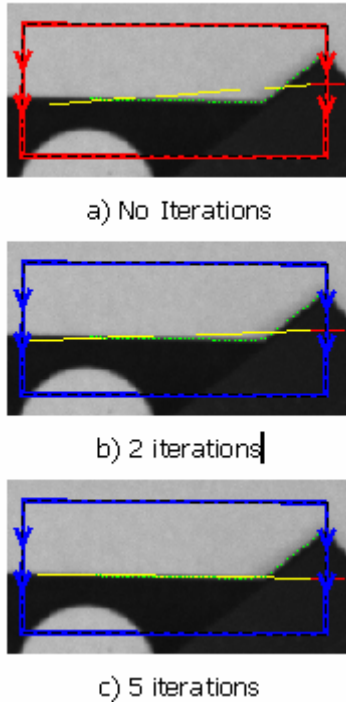

Figure 38: Use of the number of iterations to overcome imperfections/noise in the part. Note: scan lines show for illustration purposes only.
- The Max Iterations option lets the user indicate how many times to recalculate the line/circle being interpolated using the data points. After every calculation, points are assigned a certain weight for the next calculation based on the distance from them to the computed output (line/circle). By doing this, the algorithm puts more emphasis of true edge points and less on noise. Figure 38 illustrates the use of this option. Image (a) shows the output line calculated with no iterations. As the image illustrates the output line is not on the edge because of the imperfection of the part. Images (b) and (c) show the same Vision Tool after 2 and 5 iterations. Image (c) is the only one that finds the edge of the part regardless of the imperfections that the part presents.